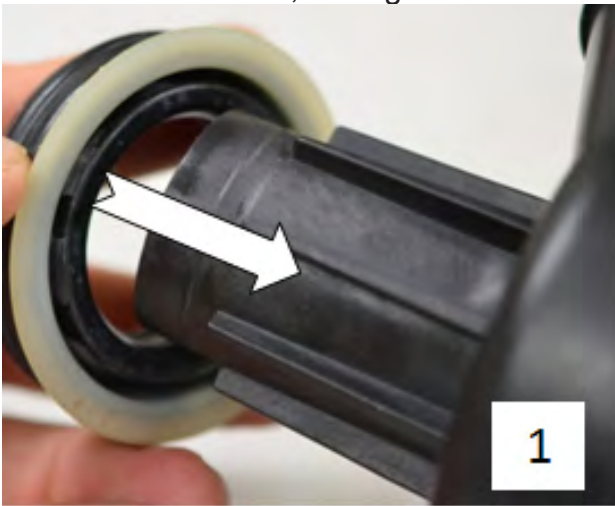

Figure 1
1. Install new Seal, see figure 1